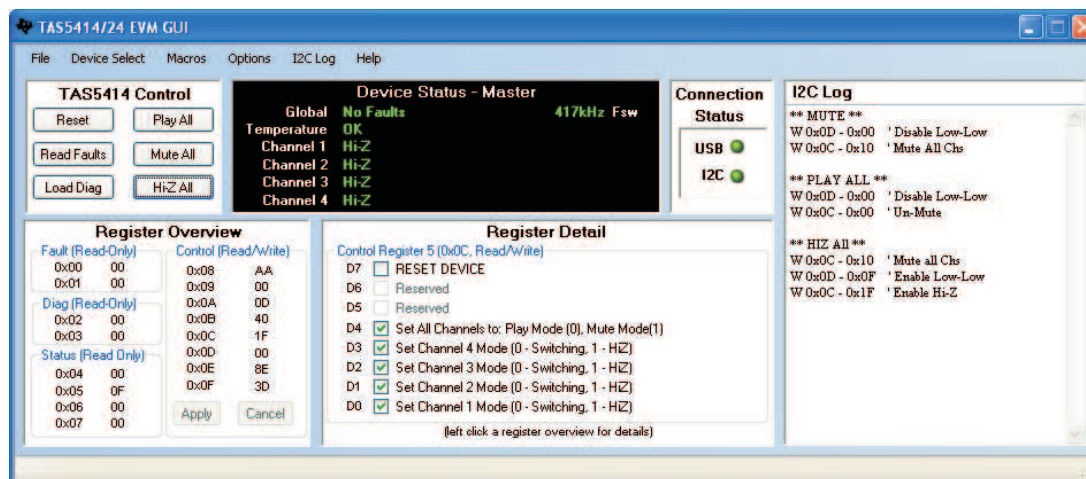

Figure 5. Various Panels of Main Window
**Device Panel Title:** The title at the top of the Device Status Panel shows with which device the GUI is set to communicate. The four options are: Master (shown in Figure 5), Slave1, Slave 2, and Slave 3. This is changed in the menu item *Device Select*